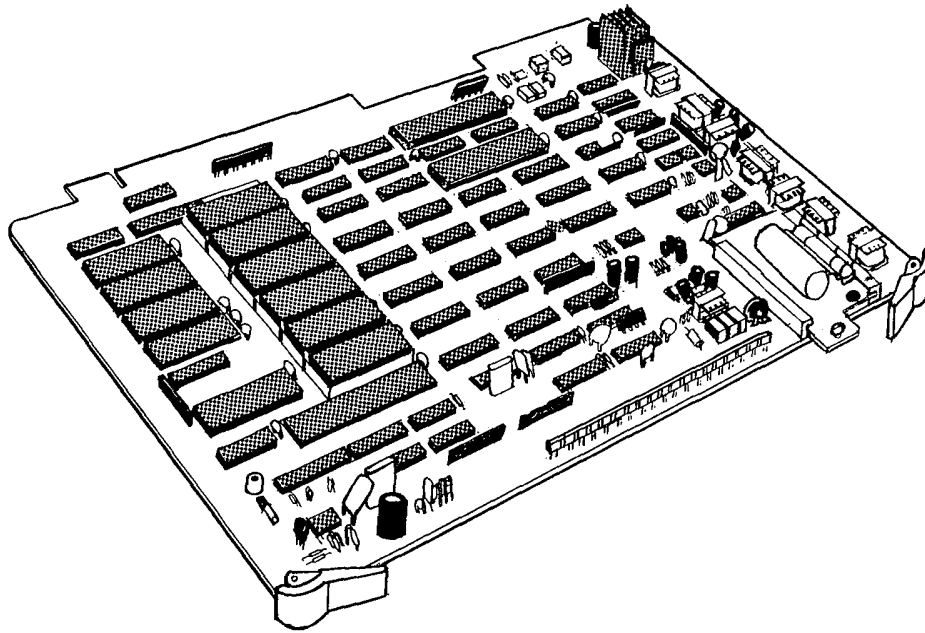

Figure 7-2 MCCU-6TA, EK-616
- (a) **MCCU-6TA ( Main Common Control )**, ( Figure 7-2 ) which provides microprocessors for data management; generators for system tones; page amplifiers; and devices for alarm detection, Music-On-Hold and Background Music, and Energy Control System control interface.